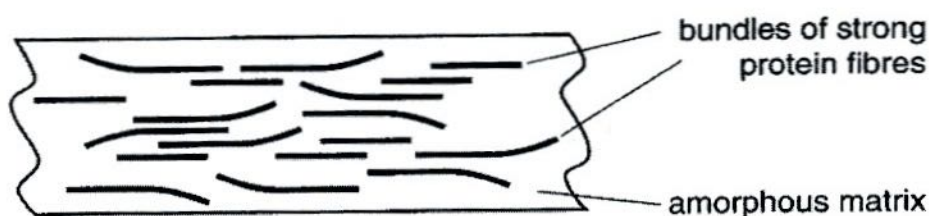

Fig. 11.2
- (i) Hairs are made of bundles of strong protein fibres, embedded in an amorphous protein matrix (Fig. 11.2). Strong sulphur bonds glue the bundles of fibres to the amorphous matrix.